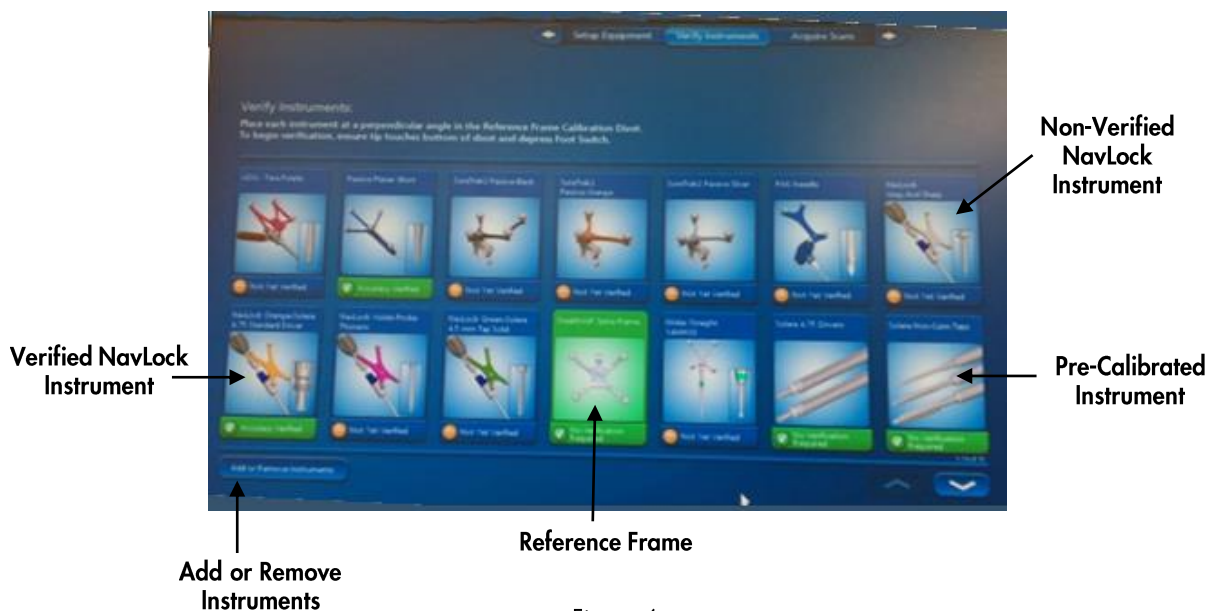

Figure 6
- Each navigated instrument must be assigned to an appropriate Tool Card (Table 1 & Figure 6)
- Select the **"Add / Remove Instruments"** button on the **"VERIFY INSTRUMENTS"** screen (Figure 6)